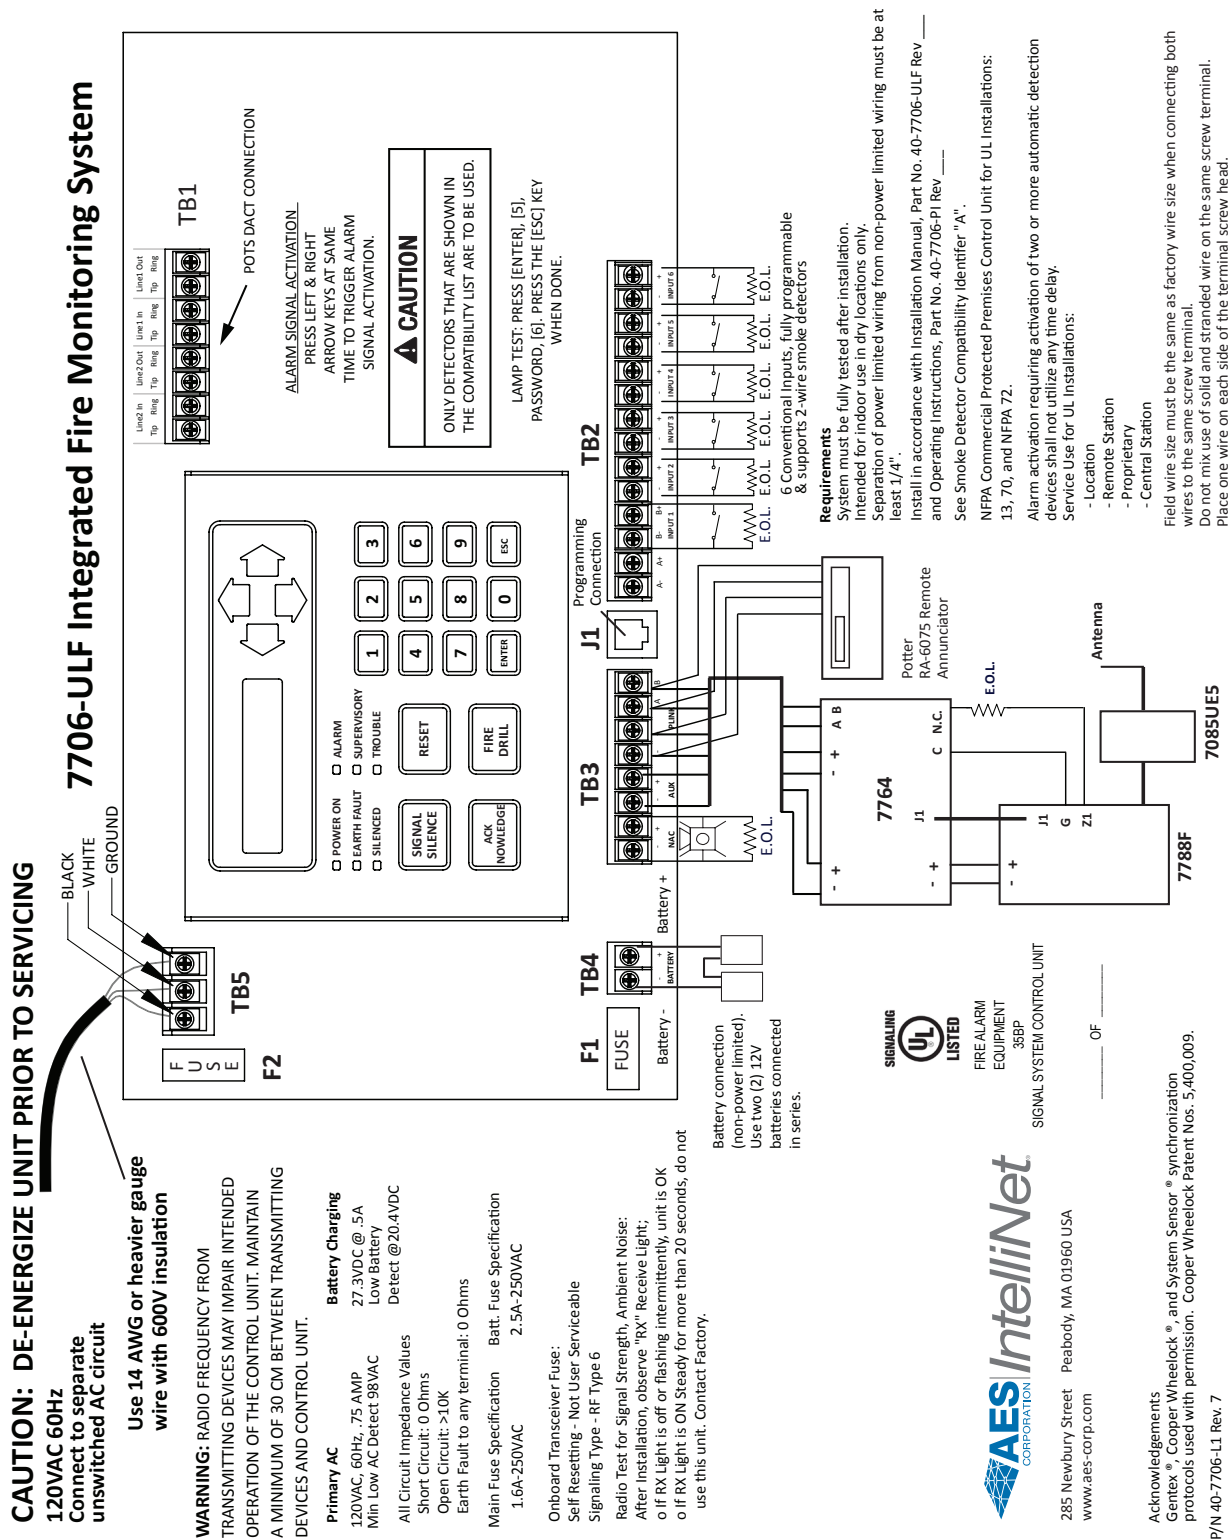

Figure 15. 7706-ULF Cabinet Wiring
13. Connect all the other wiring to the terminals (refer to Figure 15).